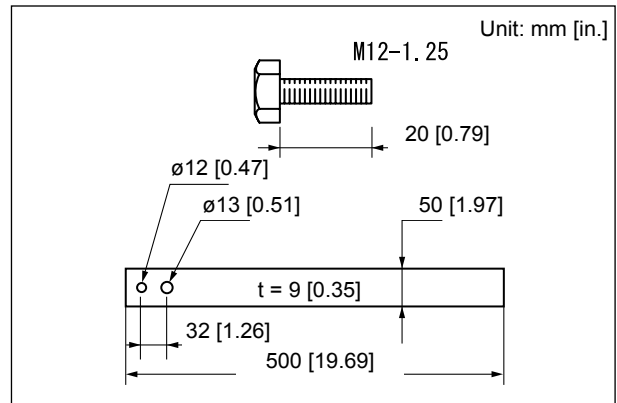

Fig. 3.508
- ① Install a locking jig shown in Figure 3.508 onto the lift cylinder.